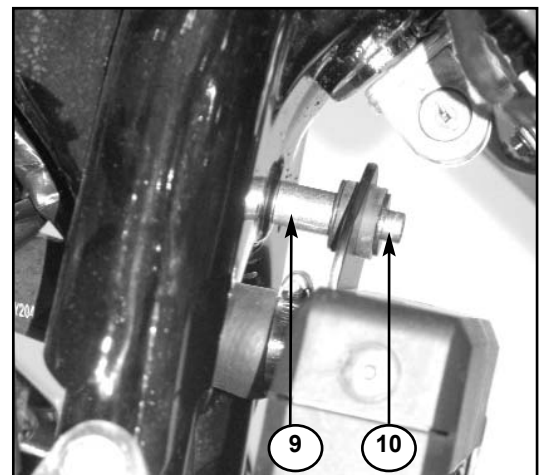

Figure 4
5. Remove the two lower frame mounting bolts on the right side of the frame down tube (14mm Socket.) The upper, short bolt will be reused, the lower bolt will not, but the nut will. Refer to figure 4 for position.
12. Install the center radiator mount point using the supplied spacer and M6 x 45 Screw. **Figure 4.** Reinstall the two lower radiator mount screws using stock screws. Tighten to specified torque (10mm Socket).